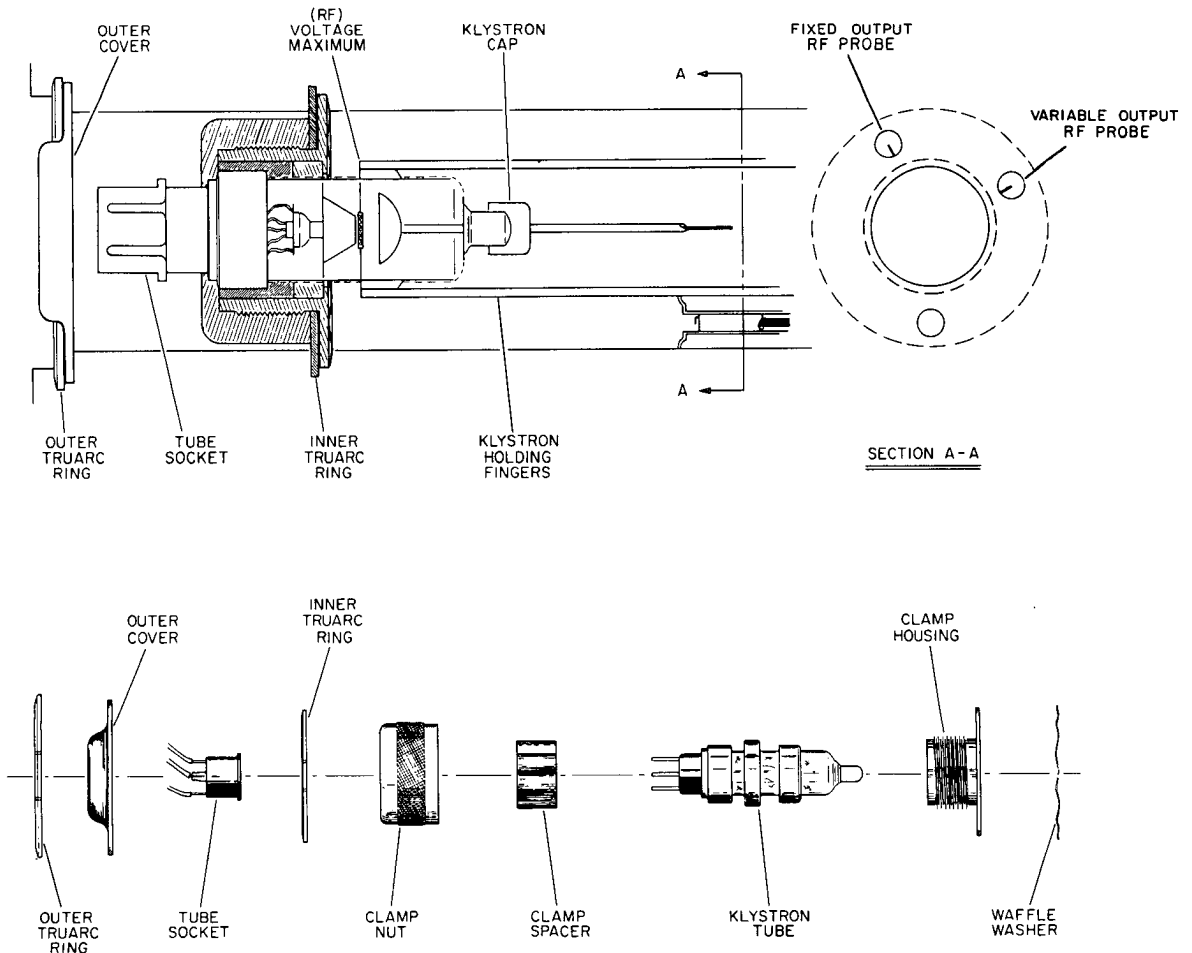

Figure 5-5. Klystron Assembly in Cavity
- c. Using truarc pliers which are available in a repair kit, HP Stock No. 08614-800, remove outer truarc ring from outer cover of klystron cavity (see Fig. 5-5).
- e. Remove tube socket from klystron with a straight pull. Remove klystron tube from cavity. Unscrew clamp nut, lift out clamp spacer, and remove klystron (see Figure 5-5).